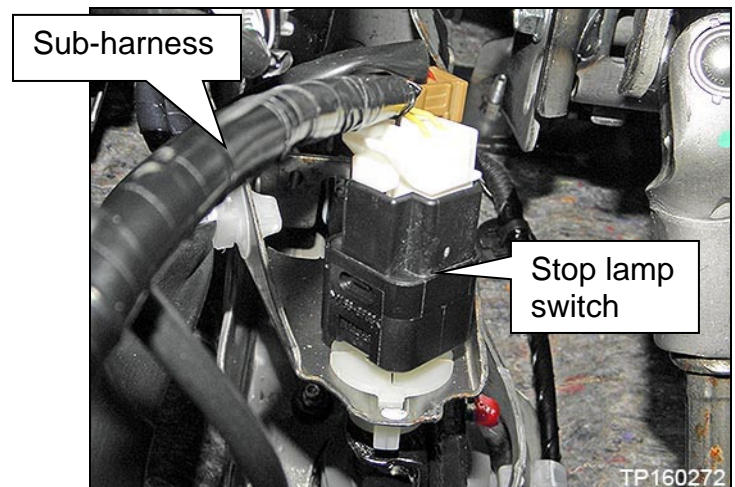

Figure 15
13. Connect the sub-harness to the stop lamp switch (Figure 15).